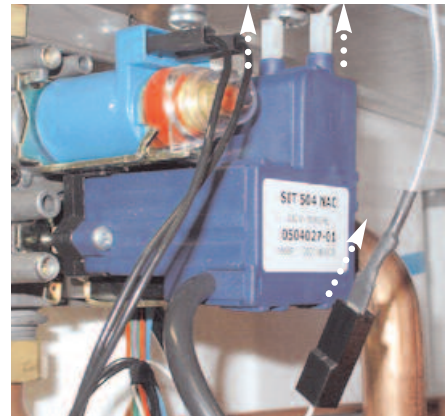

Fig. 18.20
2. Disconnect the electrode wires (see Fig. 18.20);
2. Disconnect the electrode wires (see Fig. 18.20, Fig 18.21 & 18.22);